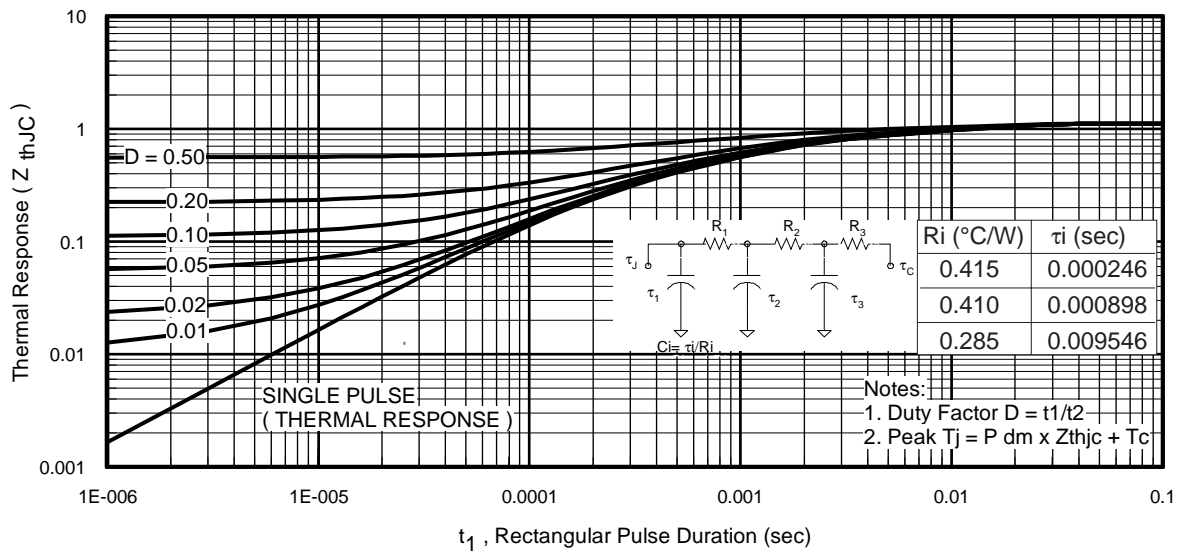
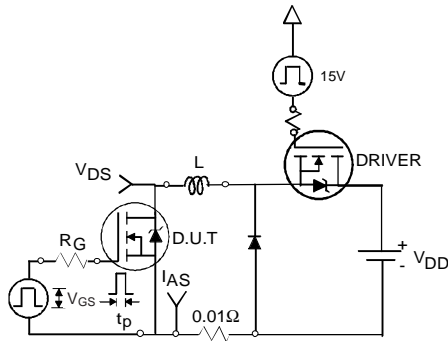

Fig 11. Maximum Effective Transient Thermal Impedance, Junction-to-Case
Fig 12a. Unclamped Inductive Test Circuit
- ① Repetitive rating; pulse width limited by max. junction temperature. (See fig. 11).
- ② Limited by T_{Jmax} , starting $T_J = 25^\circ\text{C}$, $L = 0.077\text{mH}$, $R_G = 25\Omega$, $I_{AS} = 51A$, $V_{GS} = 10V$. Part not recommended for use above this value.
- ③ $I_{SD} \leq 51A$, $di/dt \leq 260A/\mu s$, $V_{DD} \leq V_{(BR)DSS}$, $T_J \leq 175^\circ\text{C}$.
- ④ Pulse width $\leq 1.0\text{ms}$; duty cycle $\leq 2\%$.
- ⑤ $C_{oss\text{ eff.}}$ is a fixed capacitance that gives the same charging time as C_{oss} while V_{DS} is rising from 0 to 80% V_{DSS} .
- ⑥ Limited by T_{Jmax} , see Fig.12a, 12b, 15, 16 for typical repetitive avalanche performance.
- ⑦ This value determined from sample failure population. 100% tested to this value in production.
- ⑧ This is applied to D²Pak, when mounted on 1" square PCB (FR-4 or G-10 Material). For recommended footprint and soldering techniques refer to application note #AN-994.
3. Equation below based on circuit and waveforms shown in Figures 12a, 12b.
$Z_{thJC}(D, t_{av})$ = Transient thermal resistance, see figure 11)